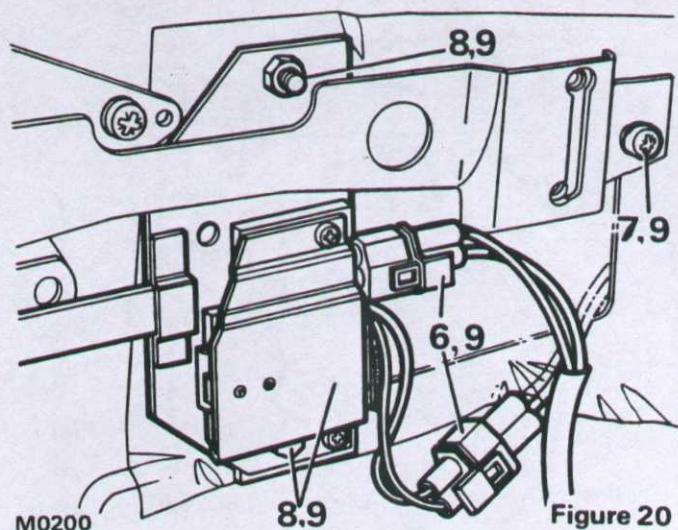

Figure 20
- 6 Peel back protective sheet and disconnect warning light lead plug and relay supply cable plug, see figure 20.